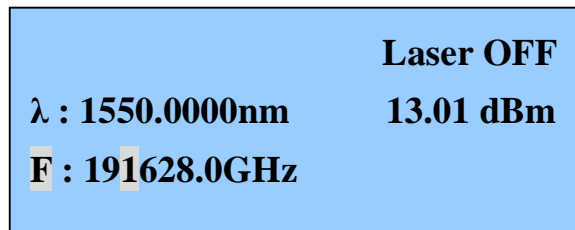

Figure 7 Modify the  $\langle F \rangle$  parameter
- 3 Pressing [  $\blacktriangleleft$  ] or [  $\blacktriangleright$  ] pushbutton to move to the desired digit, as shown in Figure 7.